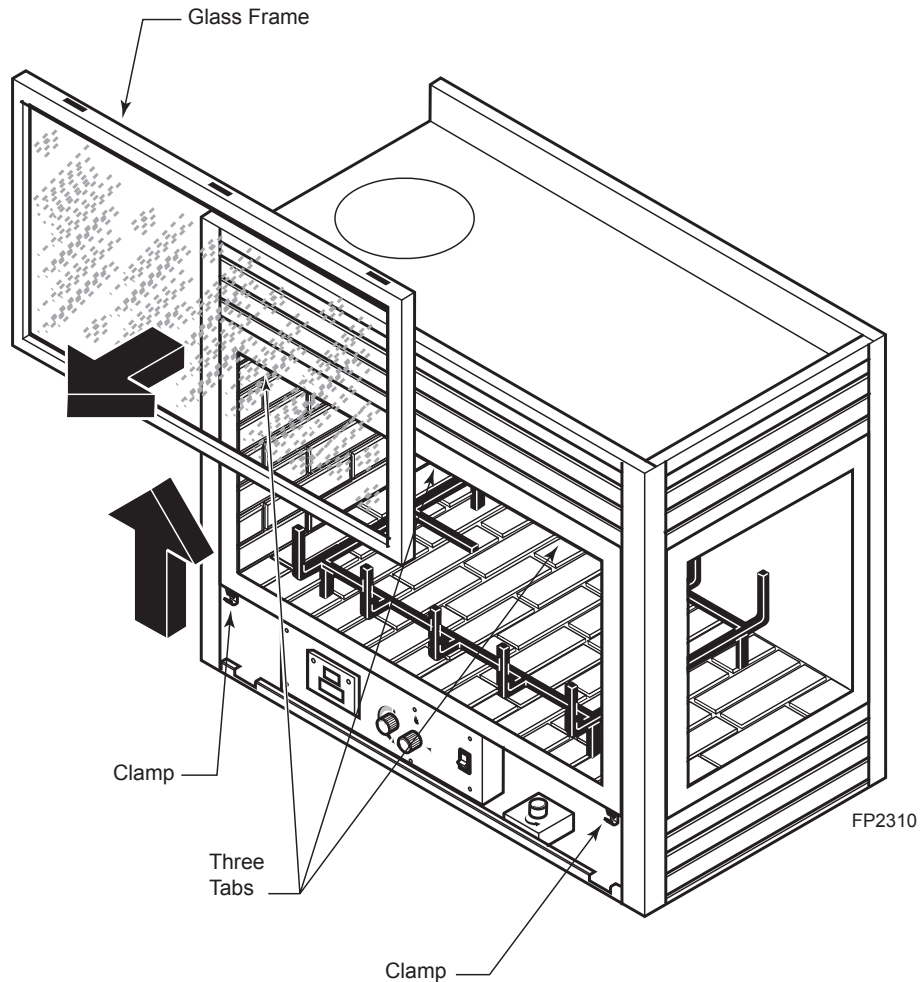

Figure 40 -
1. Release two clamps on bottom of fireplace. *Figure 40*